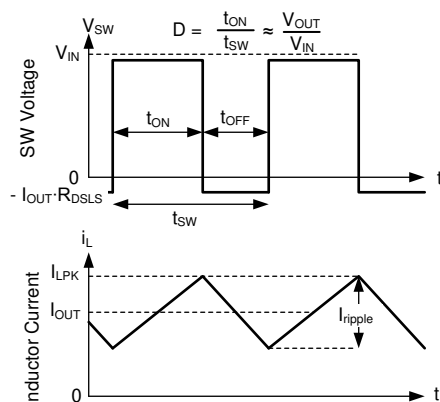

图 8-14. SW Voltage and Inductor Current Waveforms in Continuous Conduction Mode (CCM)
The following operating description of the LMR36503 refers to 节 8.2 and to the waveforms in 图 8-14. In CCM, the LMR36503 supplies a regulated output voltage by turning on the internal high-side (HS) and low-side (LS) switches with varying duty cycle (D). During the HS switch on-time, the SW pin voltage,  $V_{SW}$ , swings up to approximately  $V_{IN}$ , and the inductor current,  $i_L$ , increases with a linear slope. The HS switch is turned off by the control logic. During the HS switch off-time,  $t_{OFF}$ , the LS switch is turned on. Inductor current discharges through the LS switch, which forces the  $V_{SW}$  to swing below ground by the voltage drop across the LS switch. The converter loop adjusts the duty cycle to maintain a constant output voltage. D is defined by the on-time of the HS switch over the switching period: